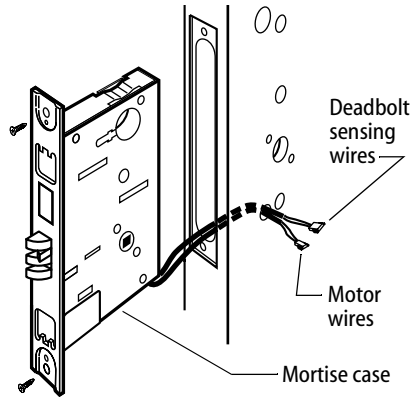

Figure 7
- 2 Install the mortise case while feeding the motor wires and deadbolt sensing wire (deadbolt function only) into the mortise cavity and out through the inside hole, as shown in Figure 7.